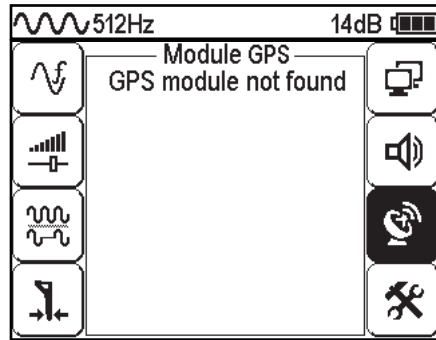

Fig.2
3. If the module doesn't respond, the receiver shows the message "GPS module not found" (see fig 2)